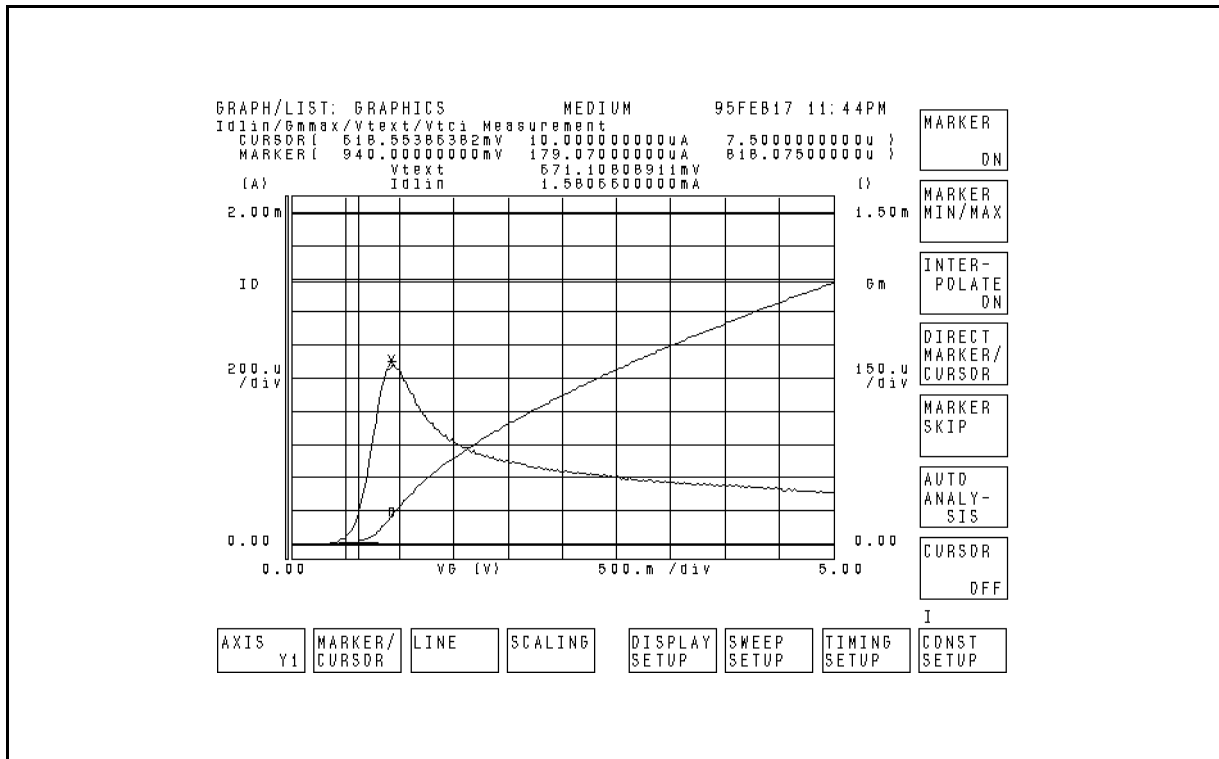

Figure 4-6. Initial/Interim Measurement Example
- The initial characterization is performed for all *valid* devices. Then stress/interim characterization loop is executed until stress termination occurs. In each interim characterization, Idlin, Gmmax, Vtext and Vtci are determined. An example measurement is shown in Figure 4-6.